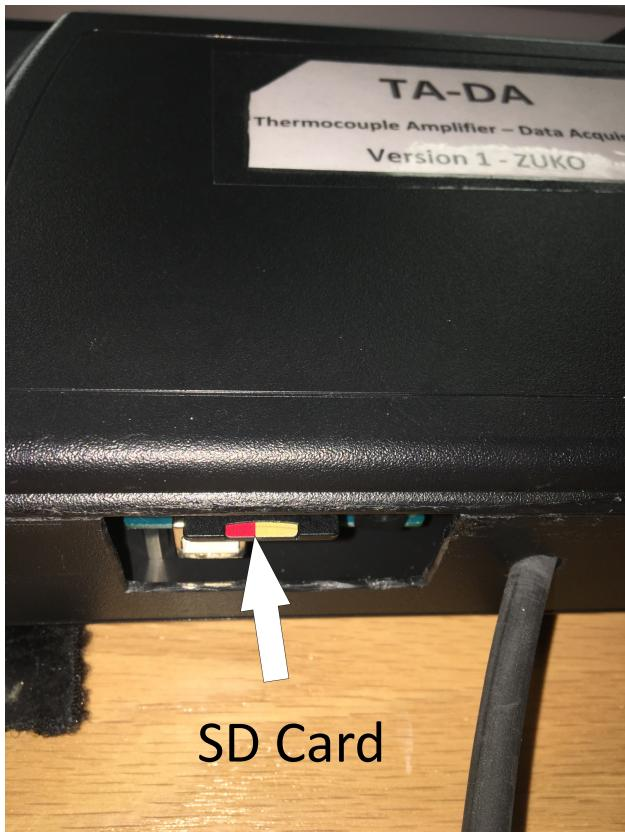

Figure 2: SD card slot location
7. Ensure a compatible SD card is inserted securely into the TADA datalogger (See Figure 2)